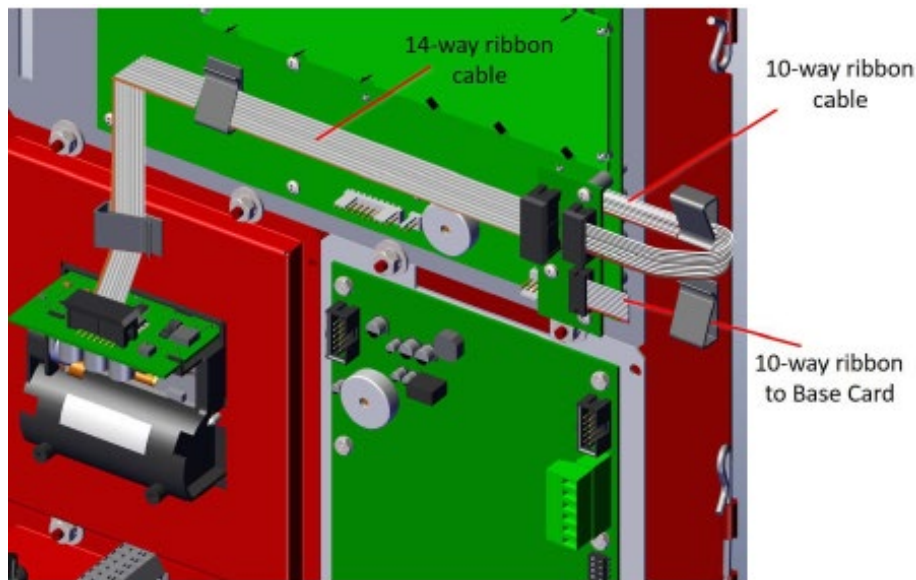

Figure 60 - NX10-EM-PRN Module
1. Remove the 14-pin flat ribbon cable female connector from the 14-pin male port on the NX10-EM-PRN printed circuit board (PCB) (Figure 60).
7. Install the adapter card 10-pin ribbon cable and feed it through the bottom cable clip mounted on the enclosure inner door, then plug it into the NX10-ACS base card's PL2 port (Figure 60).
8. Take the 14-pin flat ribbon cable with female connectors (supplied) and attach one end to the 14-pin male port on the adapter card. Feed the cable through the two cable clips (one installed on NX10-ACS-DSP PCB and the other installed on the NX10-EM-PRN mounting plate) and plug it into the 14-pin male port located on the NX10-EM-PRN printed circuit board (Figure 60).